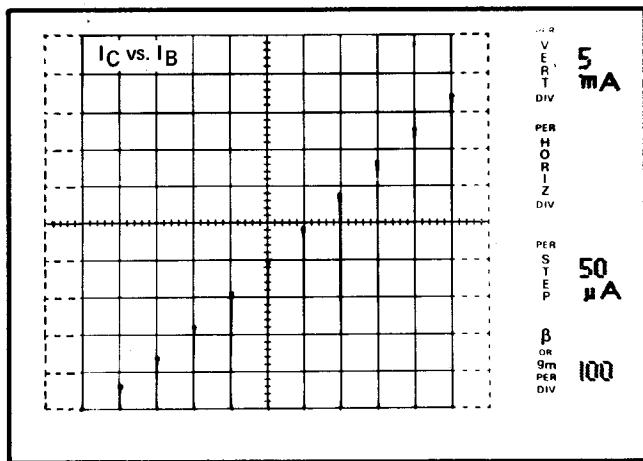

Fig. 2-15. I_C vs. I_B , I_b @ $50 \mu\text{A}$ per division.
56. Set the VERTICAL switch to 5 mA and the HORIZONTAL switch to STEP GEN. Note the display of collector current vs. base-current, one step per horizontal division (see Fig. 2-15).